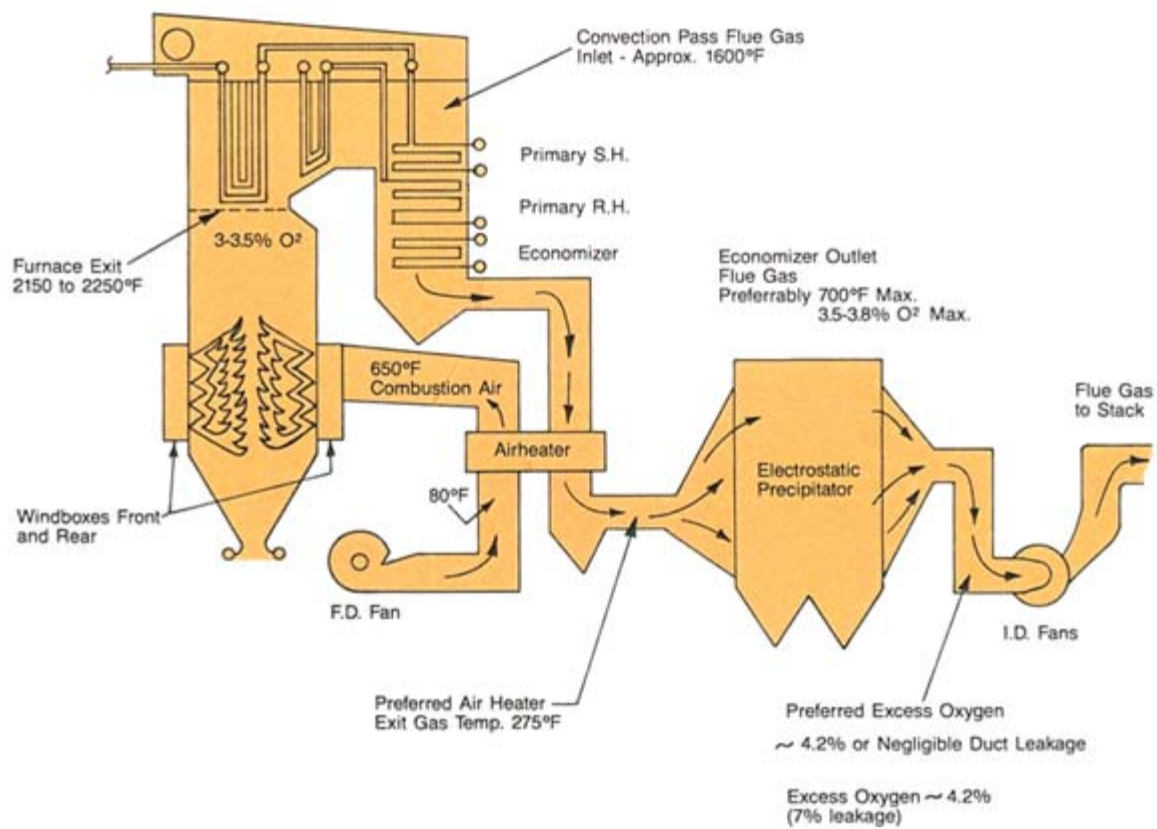

Figure 5
- **Oxygen Rise Tests – Furnace to Stack.** These should be run periodically to monitor boiler air in-leakage, air heater leakage and duct air in-leakage. These problems can sometimes be corrected online, if not, they can be added to the outstanding maintenance list and corrected at the first scheduled (or unscheduled) outage. The preferred excess oxygen levels are as shown in Figure 5.